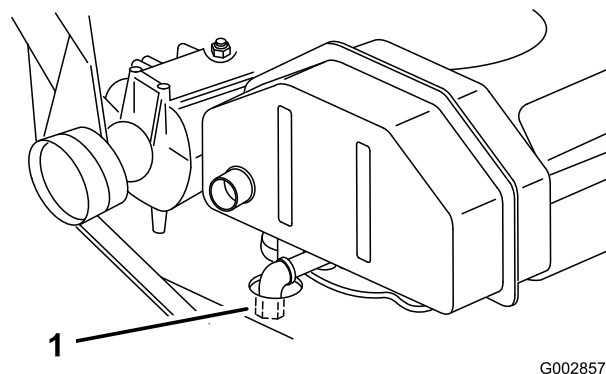

Figure 22
5. Place a pan below the drain hose. Rotate oil drain valve to allow oil to drain (Figure 22).
7. Remove the drain hose (Figure 22).